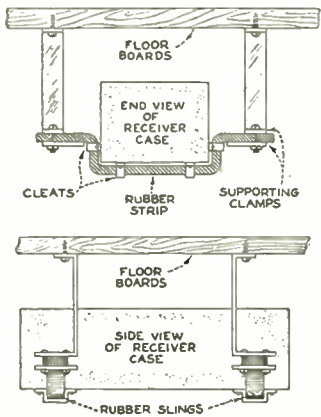
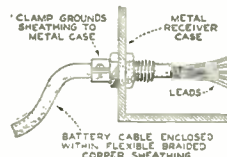
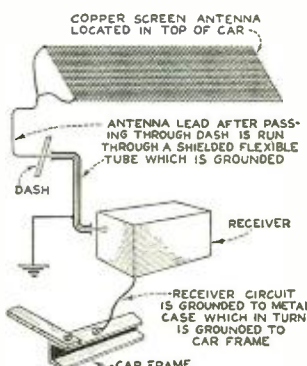

Fig. 1—Shock absorbers for mounting the set under the floor boards
Fig. 3.—Use a clamp to ground the cable shield to the set's case
Fig. 5—Details of the antenna-ground system for an auto-radio installation
In discussing the equipment selected for this installation, frequent reference is made to the schematic diagrams shown in Figs. 5 and 6. The discussion will start with the microphones
Fig. 1 (above, to the right) shows a section of the main ballroom, whose floor plan, showing placement of the dynamic speaker units, is given above, Fig. 3 (center of page). Fig. 5 (directly above) shows the wiring diagram of the amplifier, which is located on the orchestra platform; the amplifier is shown in the insert, above
The shallowness of the orchestra dais makes it necessary to string the musicians out in a line, with the result that the orchestra is so widespread that one microphone would not have been sufficient to provide adequate pick-up, without accentuating the nearest instruments and neglecting those further away. Two microphones were therefore decided upon, located as shown at A and B in Fig. 1. These microphones are of the single button type, manufactured by Amplion.
The entire amplifier equipment is located on the orchestra platform, and is enclosed in a metal table stand, so arranged that it may be locked up when not in use. An inside view of this cabinet with the cover removed is shown in Fig. 3. This location of the amplifiers has the advantage that it is close to the microphones and therefore keeps the rather critical microphone leads short, with consequent less likelihood of picking up interference from lighting lines and other sources. Also, such attention as the amplifier may require in operation can be given by some member of the orchestra, although little atten-
a.c. lines. It consists of a single stage, employing a 299 tube. The tube filament, plate and the microphone button currents are all obtained through a 380 type rectifier tube and suitable filter, incorporated in this amplifier unit, which is shown at C in Figs. 3 and 5. The input and output impedances of the unit are such as to match the microphone impedance with that of the power amplifier input.
The power amplifier, shown at D in Figs. 3 and 5, is a three-stage job, also by Amplion, and using Ferranti transformers and parts. As will be noted from the illustrations, the entire amplifier is mounted on a single base and is fully shielded. The first stage employs a single 327 tube, the second stage is push-pull, using two 326 tubes, and (Continued on page 755)
A fairly good 150 volt d.c. meter having a resistance of about 100 ohms per volt (a low range milliammeter may also be used), a small power tube with socket, and four or five small size 45 volt B batteries will make a serviceable vacuum tube voltmeter for our purpose. The connections are shown in Fig. 1. For A and B power we can use the sources belonging to the set. The grid must be biased off with the dry cell B batteries—until the voltmeter (which is here being used as a plate milliammeter) shows no current. If the tube is a 171-A with 180 volts sup-
If the set has an output filter or transformer, the tube voltmeter may now be connected directly across the speaker as shown in Fig. 1. Note that the C+, A- terminal on the set is connected to the C+, A- terminal on the tube voltmeter, if this has separate sources of power supply. The speaker return must be removed from A- (if previously so connected) and left unconnected except to point X on the tube voltmeter.
If the set has no output device, or if the speaker is a dynamic type using a high ratio step-down transformer, we may provide the vacuum tube voltmeter with an input filter, shown dotted at C and R (Fig. 1). In this case the speaker return is not made to the vacuum tube voltmeter but left connected to B+ as usual.